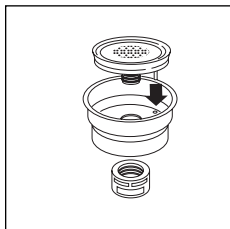

fig. 31
- Replace the assembly in the steel filter container (fig. 31), making sure the pin is inserted in the hole in the support (see arrow in fig. 31).